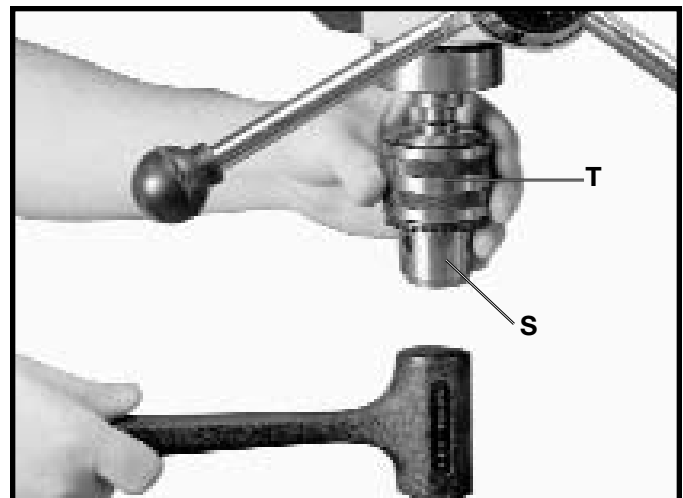

Fig. 9
8. Open chuck jaws as wide as possible by turning chuck sleeve (T) Fig. 9.
9. Holding the chuck (S) Fig. 9, carefully drive the chuck (S) onto the spindle with a rubber mallet as shown, or with a block of wood and hammer. This will seat the chuck (S) properly on the spindle. **IMPORTANT:** To avoid damage to the chuck, do not drive the chuck directly onto the spindle with a metal hammer.